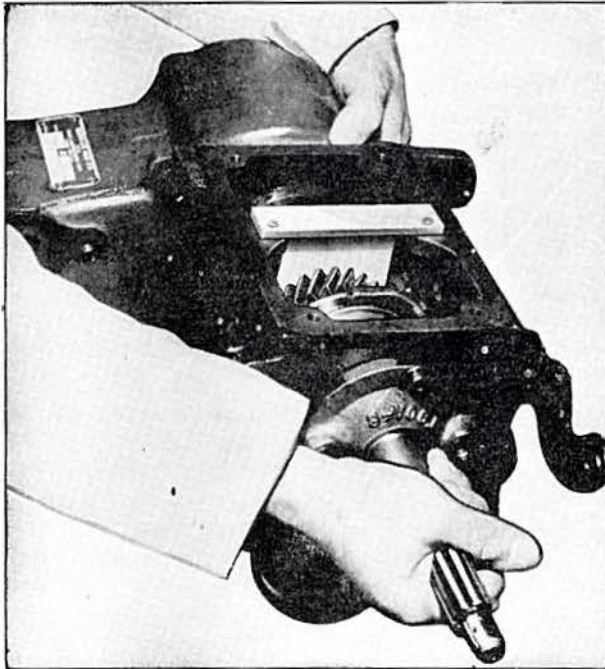

FIG. 185—MAIN SHAFT RETAINING PLATE
- e. Install transmission mainshaft retaining plate, tool W-194, as shown in Fig. 185 to prevent the mainshaft from pulling out of the transmission case. Should this tool be unavailable, loop a piece
d. Shift the transmission into lower gear and place transmission main shaft retaining plate, special Tool W-194, Fig. 185, to the rear of the low and reverse speed sliding gear holding it to the transmission with two transmission cover cap screws. If this tool is not available, loop a piece of wire around the main shaft just back of the low speed sliding gear and fasten the ends of the wire to two front transmission cover screws to hold the main shaft in position. Should the transmission main shaft slide out of the transmission case, the